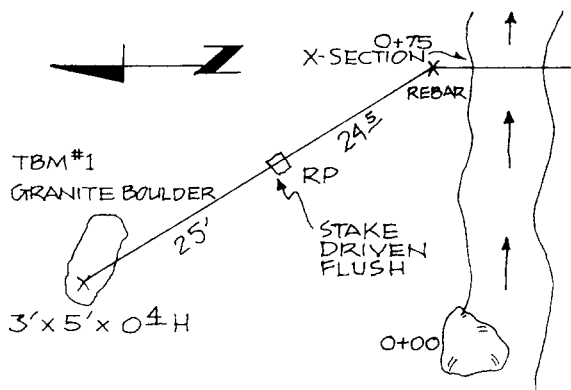

Figure 33. - Description of benchmark in field book.
2. **ESTABLISH THE BENCHMARK.** The benchmark establishes elevation and survey controls, and it serves to relocate the cross-section in the future. Methods of locating monuments for a benchmark are covered in Chapter 5, Surveying Basics. Figure 33 shows how to describe the benchmark in the field book.